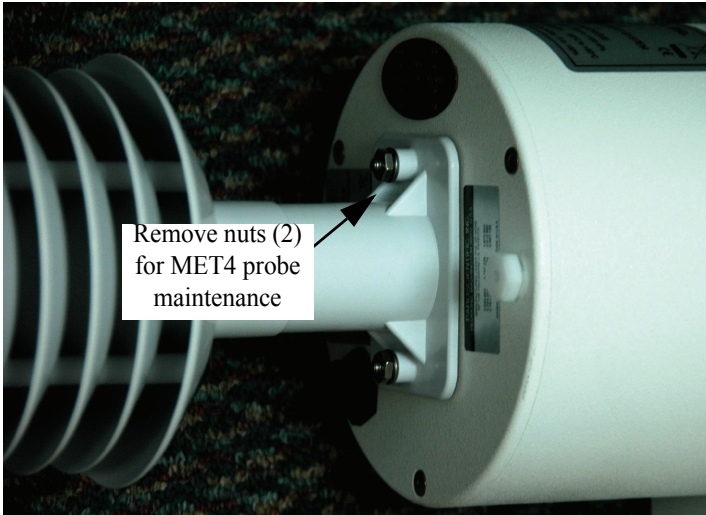

FIGURE 14-1: Gaining Access to MET4 Probe for Maintenance
2. Refer to Figure 14-1 “Gaining Access to MET4 Probe for Maintenance”. Remove the two hex nuts and lock washers securing the solar shield to the bottom of the electronics enclosure.